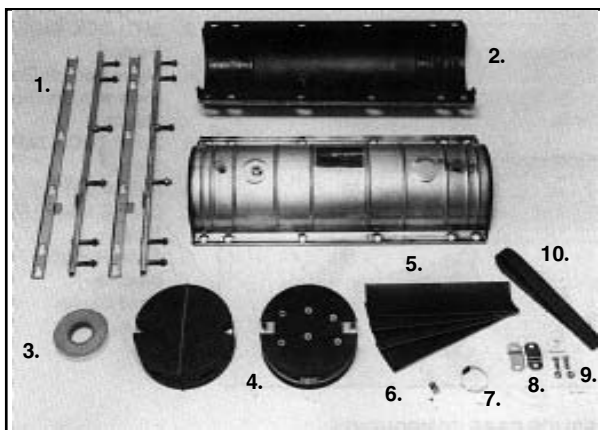

FIGURE 1 - COYOTE SPLICE CASE COMPONENTS (TYPICAL)
1.00 NOMENCLATURE (See Figures 1&2):